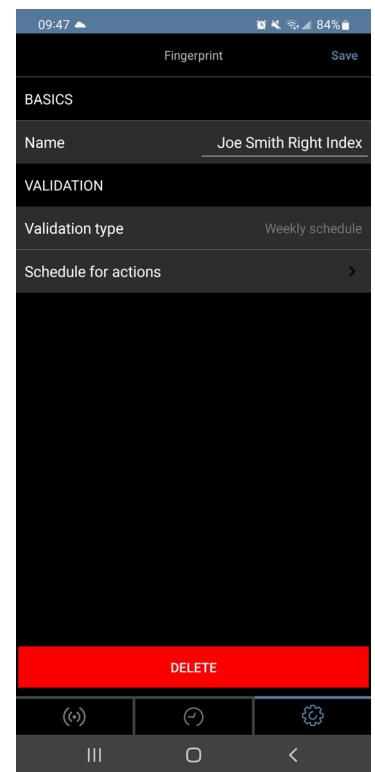

Figure 16 - Schedule for actions with a fingerprint
- Tap *Schedule for Actions* (figure 16).
Setup is simple. All you need to know is the external relay controller's username (figure 16), what relays you want to control, and what DoorBird device is hosting the I/O Door Controller. To locate the username, using the DoorBird app tap *Settings* (Gear Icon in the footer) -> Administration and login to the device using the administration account (found on the digital passport provided with the DoorBird.). Once in the Administration view scroll to Peripherals and select Settings -> select the I/O Controller. In the header, the username will be listed.